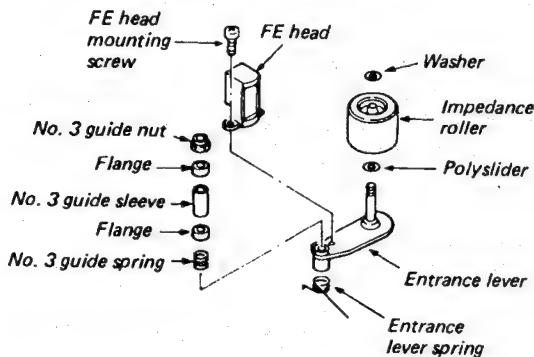

Fig. 1-3-21 Replacement of No. 3 guide and FE head
1. Rotate the No. 3 guide nut counterclockwise and remove the No. 3 guide nut and flange as shown in Fig. 1-3-21. When replacing a new flange, perform the previous steps in reverse order.
The flange arranged in upper and lower positions are common parts and can be used in either place and upside down. (Fig. 1-3-21)
2. Remove the FE head mounting screw and the FE head can be removed. (Fig. 1-3-21)
5. The replacement of the FE head causes little change in linearity. But confirm whether the associated adjustments have not been upset, starting check from the linearity adjustment, item 3) of the tape transport adjustment. (Refer to 1-4-4 (2).)
1. Remove the washer and replace the impedance roller as shown in Fig. 1-3-21.